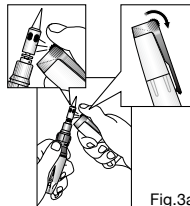
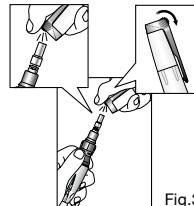

Fig.3a
Fig.3b
2. Ignite the gas stream with the **Flint Ignitor** located on the Torch Cap. (Fig. 3a Fig. 3b)